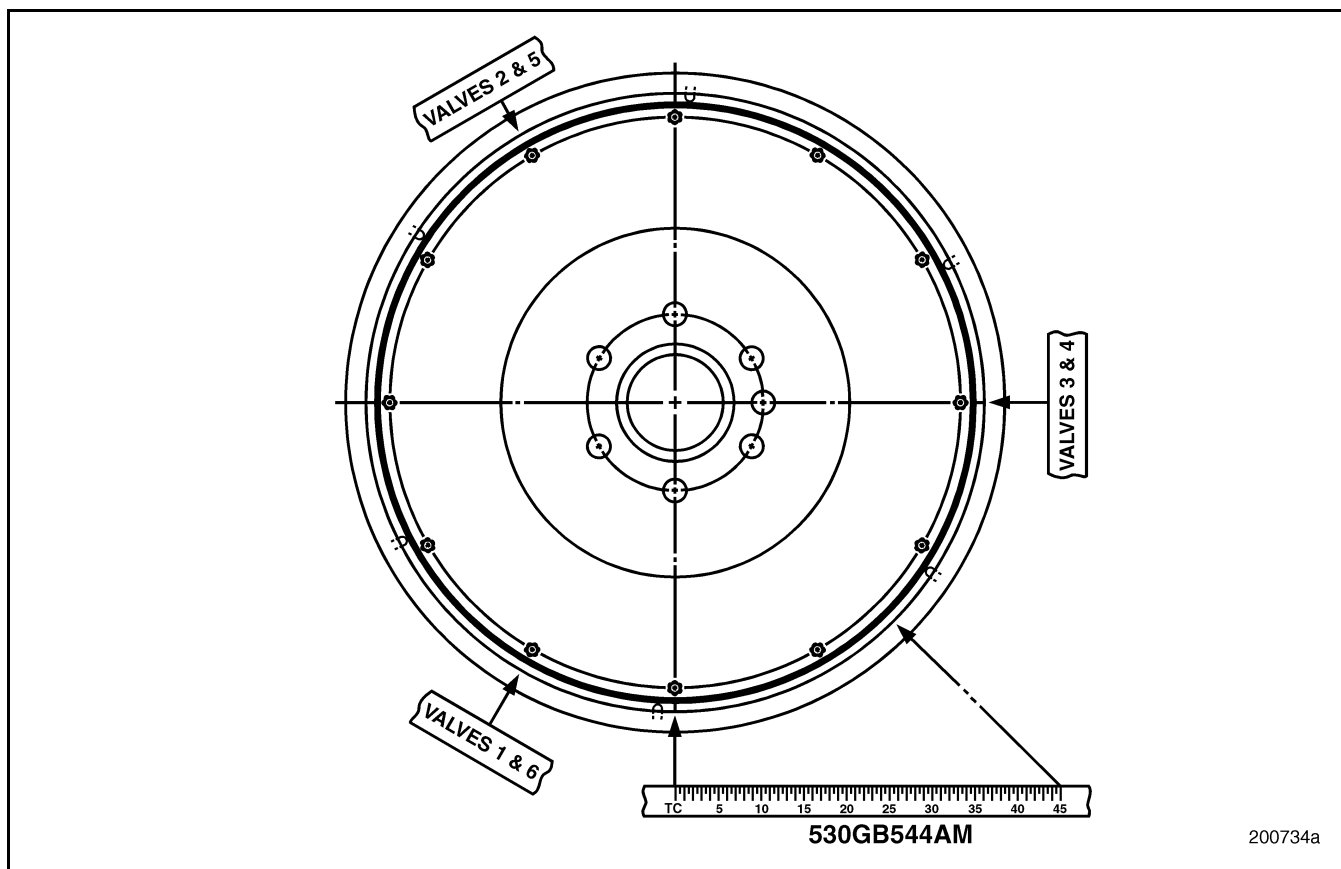

Figure 539 — Flywheel Marks
On a typical flywheel, the top center (TC) markings, and the valve adjustment markings, are directly in line with the clutch mounting bolt/bolt holes. To determine if the engine is equipped with a typical flywheel, view the flywheel through the timing access hole in the flywheel housing. Align the TC markings with the timing pointer. If the flywheel is typical, there should be a clutch mounting bolt/bolt hole directly in line with the TC marking. In this case, the valve adjustment markings should be in line with a clutch mounting bolt at three locations. Refer to Figure 539.